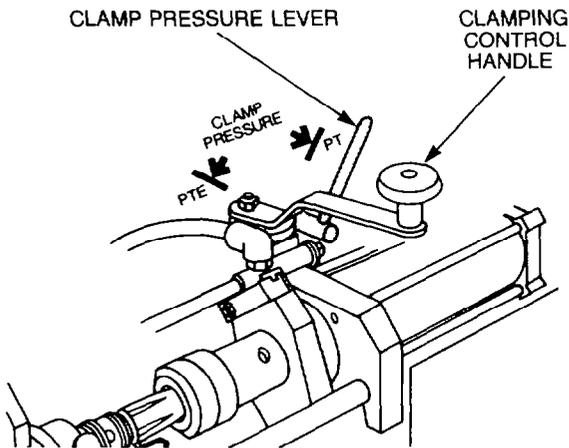

Figure 125 — Clamp Pressure Lever and Clamping Control Handle — Locked Position
- j. Close the test stands guard, then ensure that the clamp pressure lever is in the PT position (see Fig. 125) and move the clamping control handle to the clamped position.